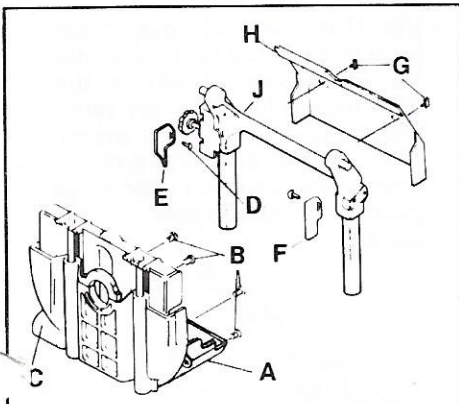
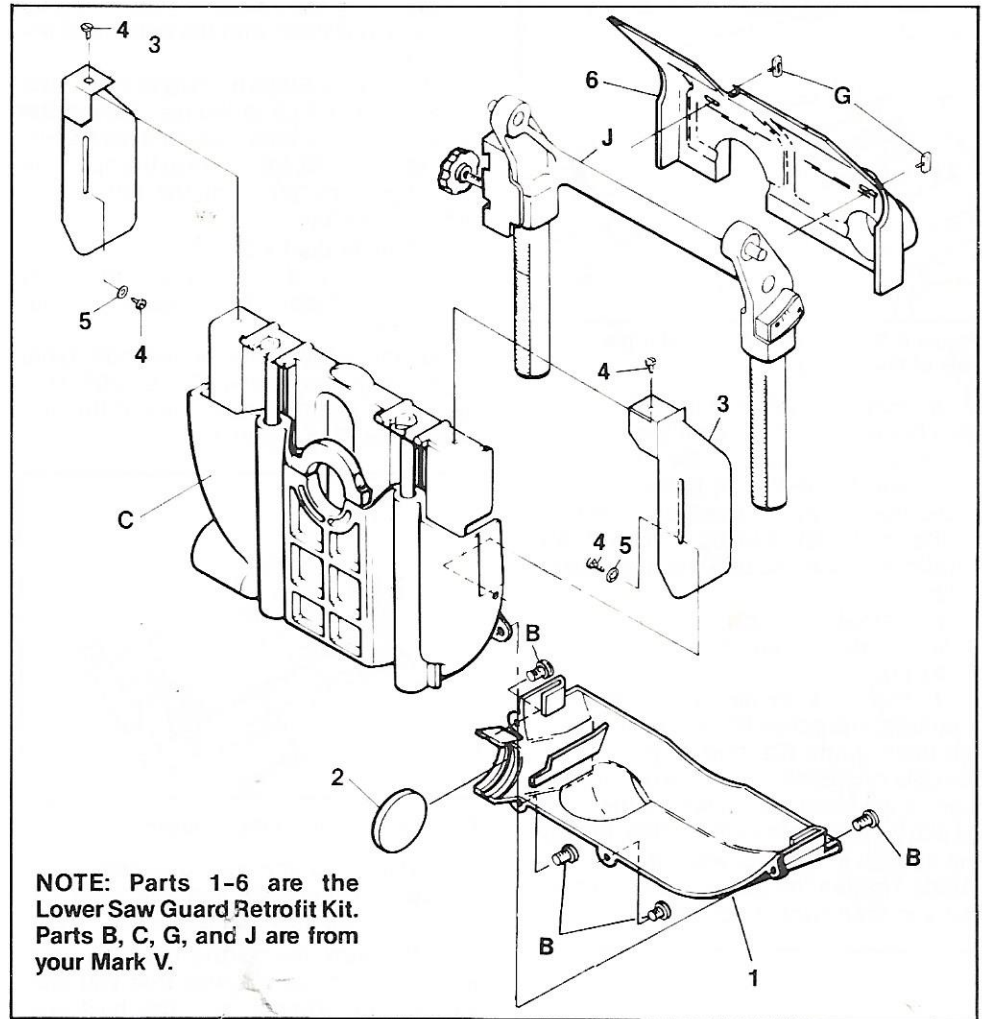

Figure 1. Your Mark V Lower Saw Guard, Tie Bar and Tie Bar Shields.
Figure 2.
2. Disassemble the lower saw guard and tie bar. (See Figure 1.)
- a. Remove four screws (B) and the outer guard (A) from the inner guard (C). Discard outer guard (A).
- b. Remove screws (D) and shields (E, F) from the inside of the tie bar (J). Discard screws (D) and shields (E, F).
- c. Turn the tie bar shield thumbscrews (G) horizontal. Remove and discard the tie bar shield (H).
3. Modify the lower saw guard. (See Figure 2.)
- a. Insert the plug (2) into the slot in the new outer guard (1). Then mount the outer guard (1) to the inner guard (C) using four screws (B).
5. Mount the new tie bar shield (6) over the thumbscrews (G). (See Figure 2.) Tighten the thumbscrews.
6. Mount the upper and lower saw guards on the Mark V. Then attach the two elbows to the outer guard (1) and the tie bar shield (6). Then connect the dust collection hose(s).